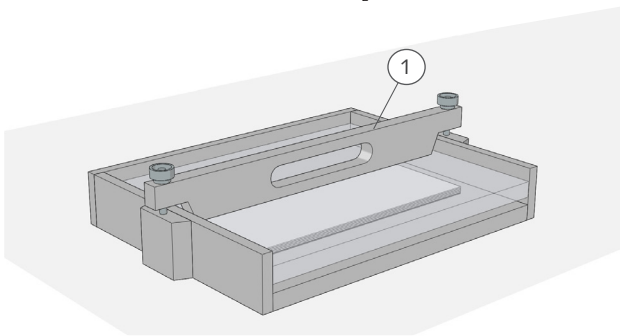

Fig. 1a. BEO Dry Blotter (1: lid)
#### 6.2 Protein Transfer (see Figure 1a and b):
- Place the BEO Dry Blotter on plane working space and remove the cover (Fig. 1a (1)) of the BEO Dry Blotter.